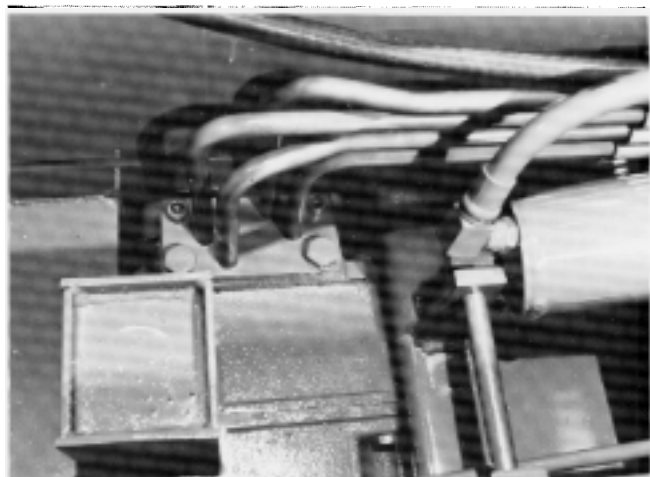

Fig. 5-46 Manifold Installed
3. Remove the four cap screws that hold the manifold pad to the motor (Ref. Fig. 5-46).